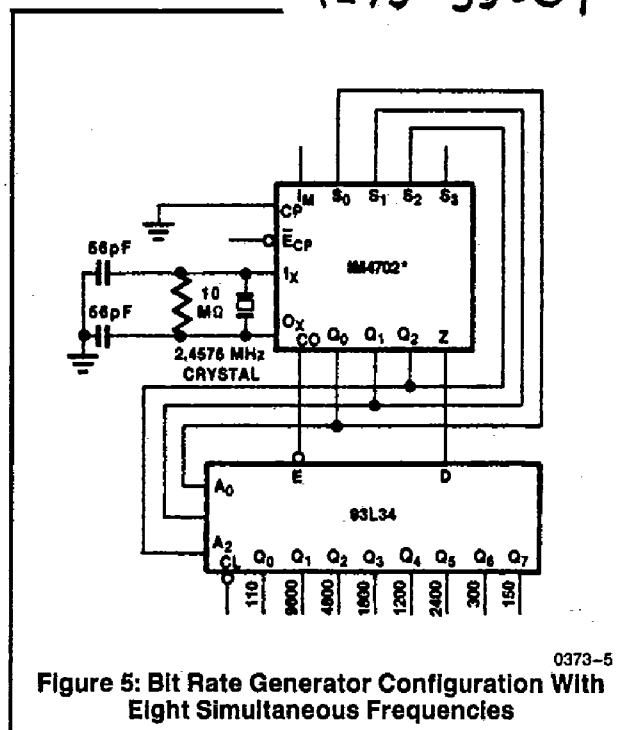

Figure 5: Bit Rate Generator Configuration With Eight Simultaneous Frequencies
Figure 5 shows a simple scheme that generates eight bit rates on eight output lines, using one IM4702/12 and one 93L34 Bit Addressable Latch. This and the following applications take advantage of the built-in scan counter (prescaler) outputs. As shown in the block diagram, these outputs (Q_0 to Q_2) go through a complete sequence of eight states for every half-period of the highest output frequency (9600 Baud). Feeding these Scan Counter Outputs back to the Select inputs of the multiplexer causes the IM4702/12 to sequentially interrogate the state of eight different frequency signals. The 93L34 Bit Addressable Latch, addressed by the same Scan Counter Outputs, reconverts the multiplexed single Output (Z) into eight parallel output frequency signals. In the simple scheme of Figure 5, input S_3 is left open (HIGH) and the following bit rates are generated: